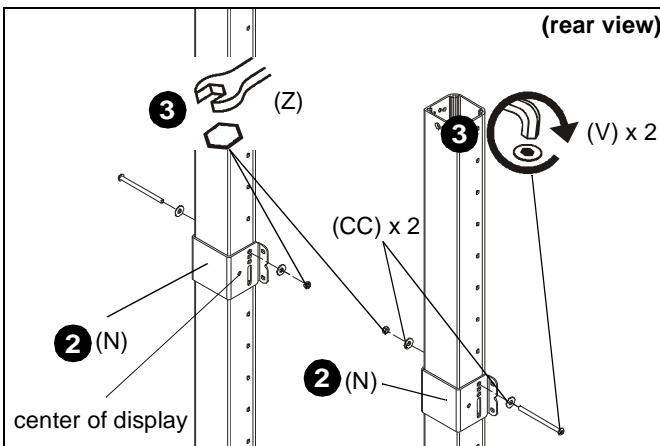

Figure 5
**IMPORTANT ! :** If installing column add-on accessories (not included), install them prior to installing rail (R) to columns (J).
2. Place clamp brackets (N) on columns in the position of where the center of the display will be on the cart with the diamond on the brackets being placed at the exact center location. (See Figure 5)
3. Use 5/16-18 x 4 1/2" button head cap screw (V), two 5/16" washers (X) and 5/16-18" lock nut (Z) to secure each clamp bracket (N) to column. (See Figure 5)